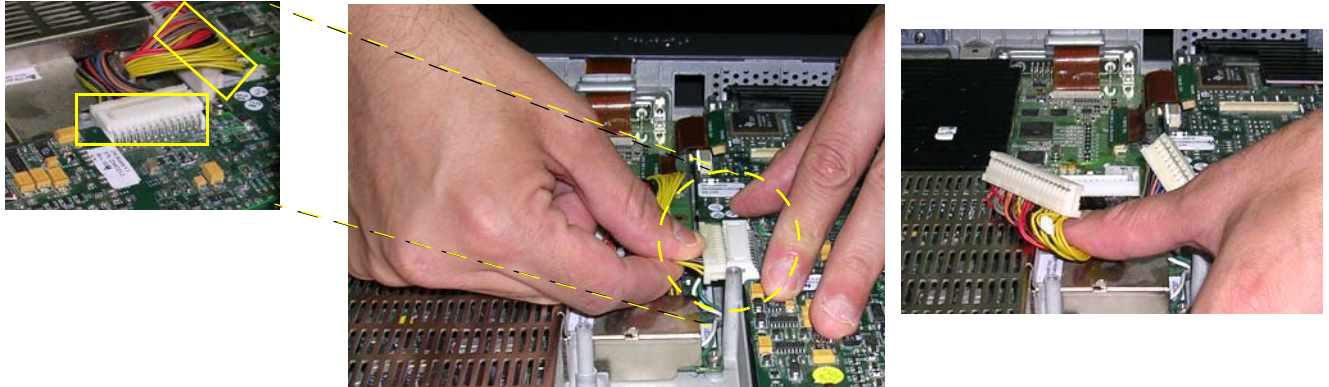

Figure 8-28 Disconnecting the DC Power Supply
- 5) Disconnect each of the two HVPS cables from their sockets on DC Power Supply, as shown in Figure 8-28 below.
- 4.) Reconnect each of the two HVPS cables to the DC Power Supply (see Figure 8-28 on page 8-29).